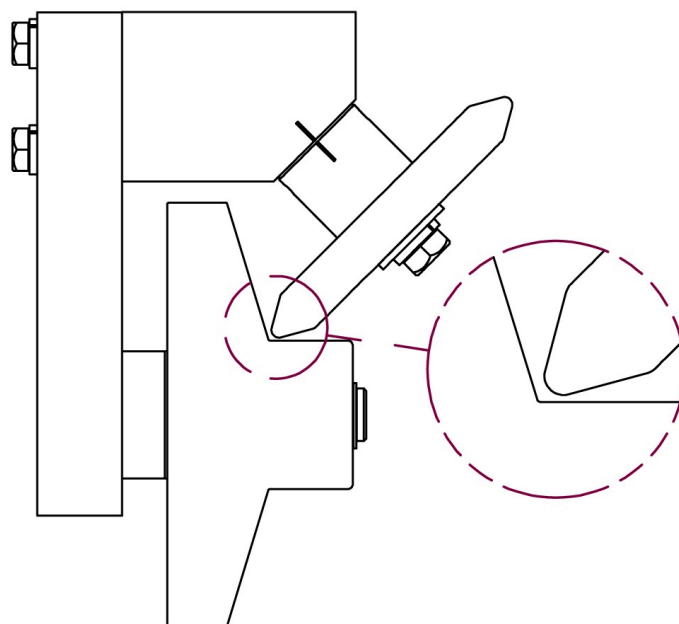
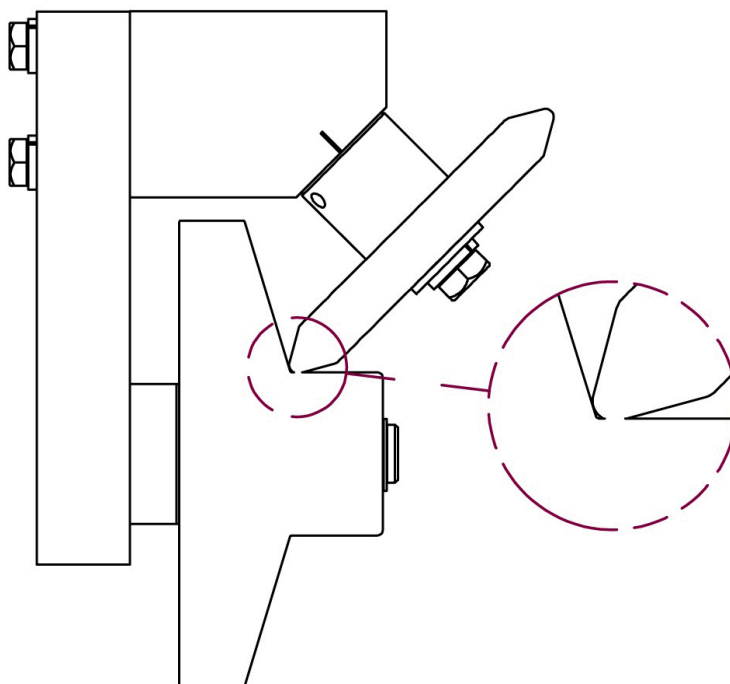

Figure 34: Eccentric Shaft Proper Adjustment
Figure 36: Eccentric Shaft Too Tight
3. Rotate the shaft to the desired angle (See Figure 34 - Figure 36).